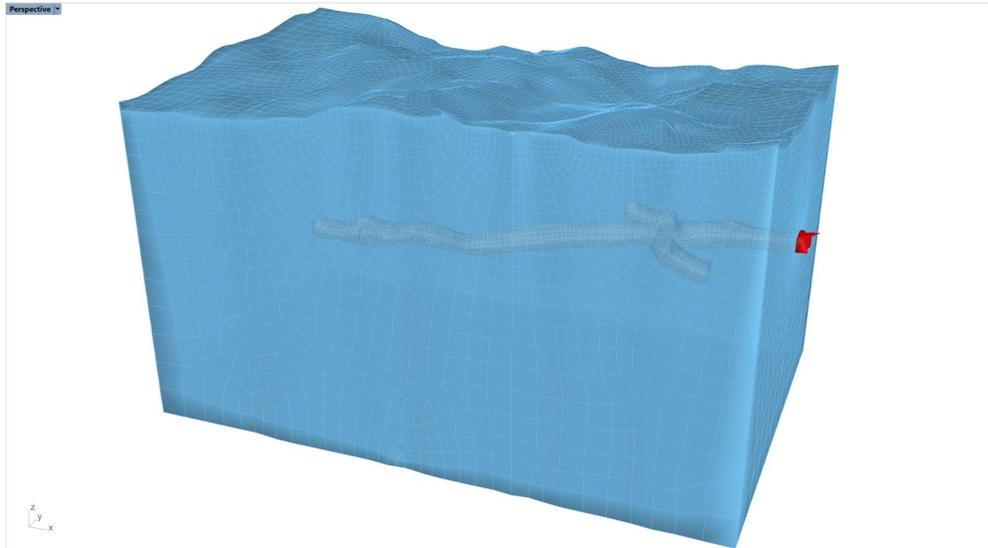

Figure 73: Meshes separated with the `_GExtract` command.
21. Select all meshes and use *Griddle's* command **_ColorizeObjects** or click on the  icon in the *Griddle* toolbar. This will assign a unique color to each mesh piece (Figure 73).